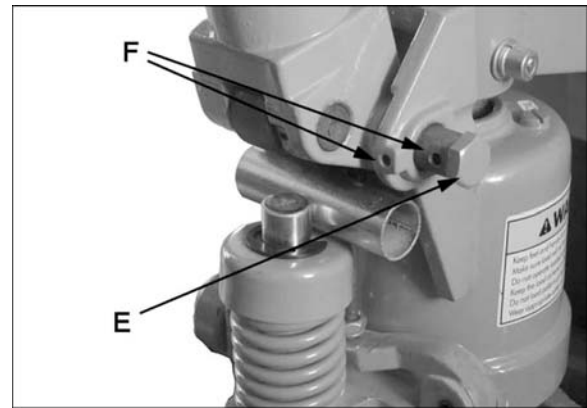

Figure 3
4. Insert handle pins (E, Figure 3) into the holes of the pump bracket and handle. Align the spring pin holes (F, Figure 3) in the handle pin and the pump bracket.